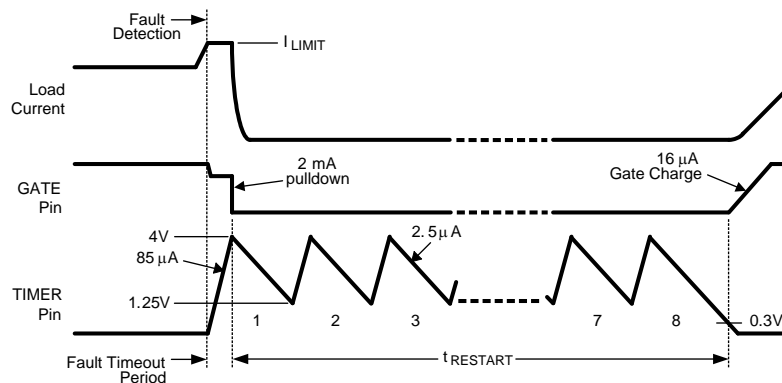

Figure 27. Restart Sequence (LM5069-2)
When the current limit or power limit threshold is reached during turn-on or as a result of a fault condition, the gate-to-source voltage of Q1 is modulated to regulate the load current and power dissipation. When either limiting function is activated, an 85 μA fault timer current source charges the external capacitor (C_T) at the TIMER pin as shown in Figure 27 (Fault Timeout Period). If the fault condition subsides during the Fault Timeout Period before the TIMER pin reaches 4.0V, the LM5069 returns to the normal operating mode and C_T is discharged by the 2.5 μA current sink. If the TIMER pin reaches 4.0V during the Fault Timeout Period, Q1 is switched off by a 2 mA pull-down current at the GATE pin. The subsequent restart procedure then depends on which version of the LM5069 is in use.
The LM5069-2 provides an automatic restart sequence which consists of the TIMER pin cycling between 4.0V and 1.25V seven times after the Fault Timeout Period, as shown in Figure 27. The period of each cycle is determined by the 85 μA charging current, and the 2.5 μA discharge current, and the value of the capacitor C_T . When the TIMER pin reaches 0.3V during the eighth high-to-low ramp, the 16 μA current source at the GATE pin turns on Q1. If the fault condition is still present, the Fault Timeout Period and the restart cycle repeat.
C) Restart Timing For the LM5069-2, after the Fault Timeout Period described above, C_T is discharged by the $2.5 \mu\text{A}$ current sink to 1.25V. The TIMER pin then cycles through seven additional charge/discharge cycles between 1.25V and 4.0V as shown in Figure 27. The restart time ends when the TIMER pin voltage reaches 0.3V during the final high-to-low ramp. The restart time, after the Fault Timeout Period, is equal to: